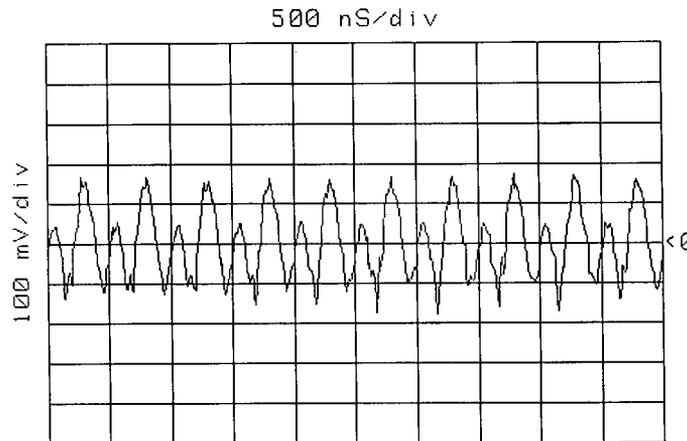

Figure 5-27. Typical Waveform at A49TP1
9. Connect the oscilloscope's Channel A input to A49TP1. Set the oscilloscope for 0.01 V/div, AC coupled, and 0.5 us/div. The oscilloscope display should look similar to Figure 5-27.